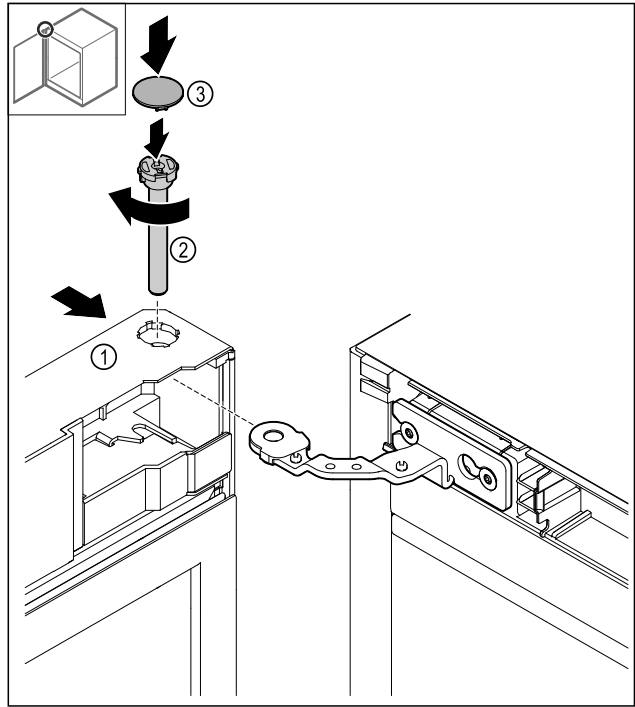

Fig. 47
- Slide the door Fig. 47 (1) onto the top hinge.
- Insert the bolt Fig. 47 (2) and turn it clockwise to tighten.
- Put on the cover Fig. 47 (3).